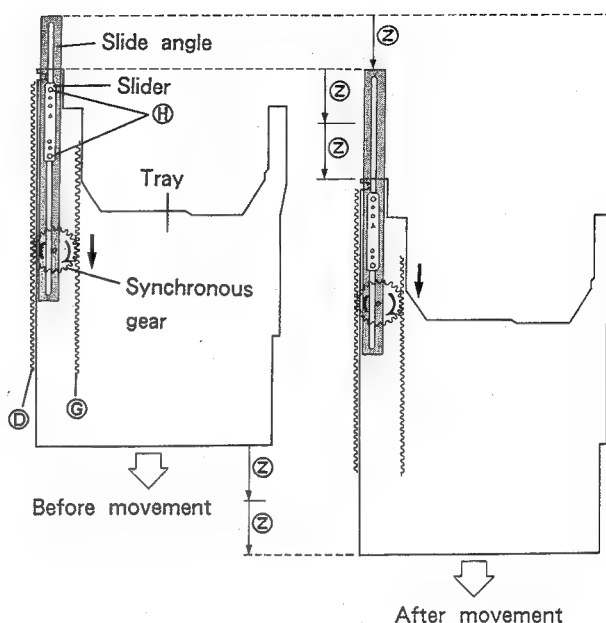

Fig. 10-1.
As shown in Fig. 10-1, tray is attached to the slider by two screws ⑧. Slider moves over the groove in the slid angle. Because it is impossible to provide the distance that tray must move (from OPEN position to PLAY position) by the movement which slide angle is capable of, the operation of the linear gear ① attached to loading base, synchronous gear attached to slide angle, and the linear gear section ③ of the tray, doubles the movement distance of slide angle to allow movement of tray. The principles of operation are as follows. When slide angle moves in the horizontal direction (forward and back direction), synchronous gear rotates to move tray by the same amount that slide angle was moved.
As can be seen in Fig. 10-1, the position of tray has moved twice the distance ② that slide angle travelled, when compared with the position of tray before movement of slide angle. (The same applies to both tray 1 and tray 2.)